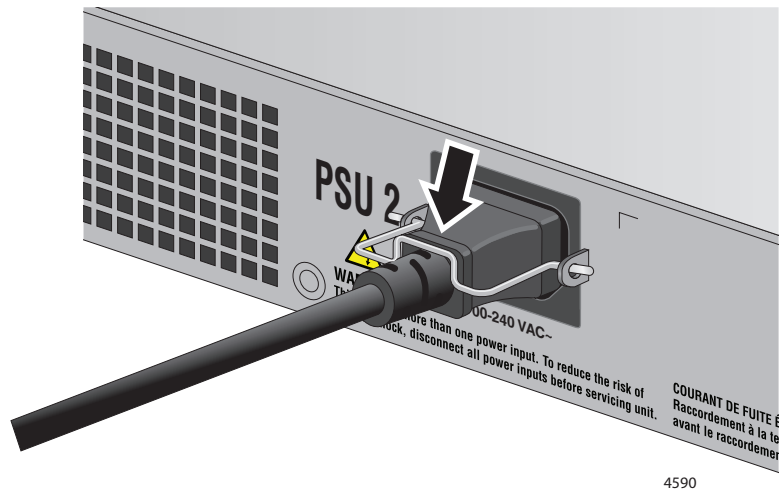

Figure 41. Lowering the Power Cord Retaining Clips
3. Lower the power cord retaining clips to secure the cords to the switch. Refer to Figure 41.